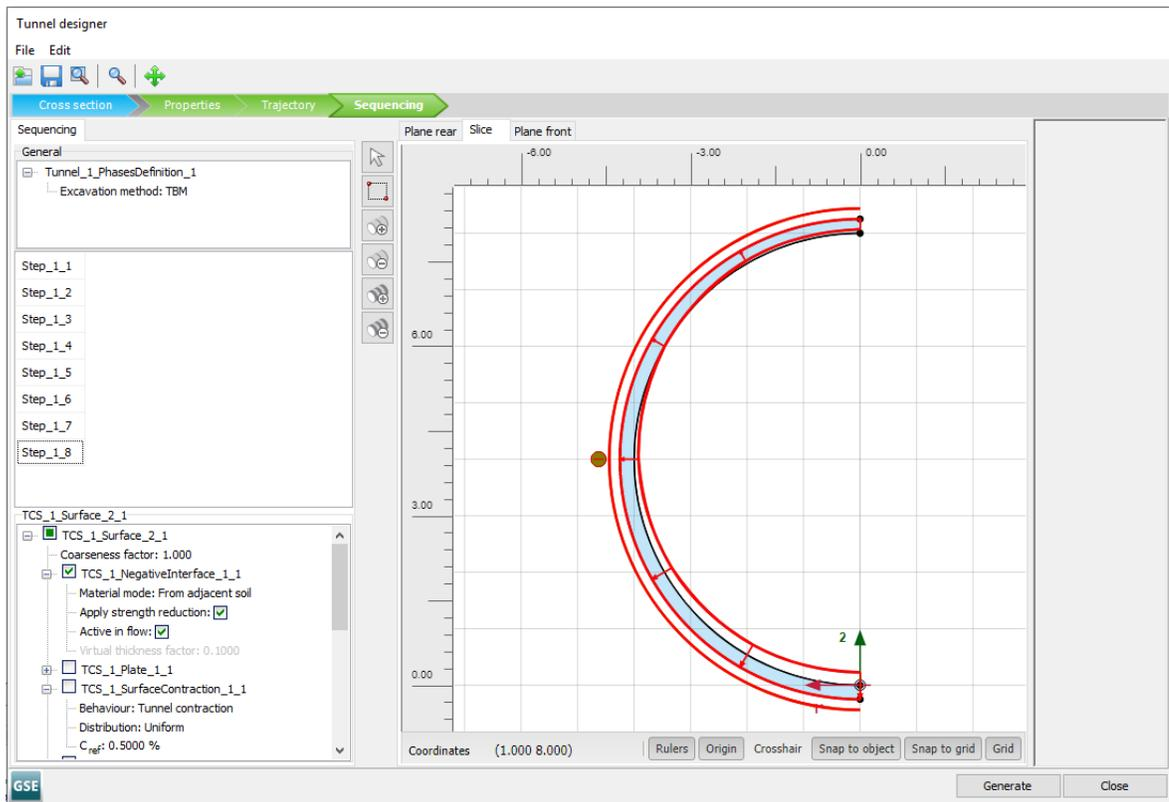

Figure 84: Slice tabsheet in the **Tunnel designer** Step_1_8
- In the **Slice** tabsheet again, select the outer volume. Activate it, click the material and select the **Concrete** option from the drop-down menu (Figure 84 (on page 111)).